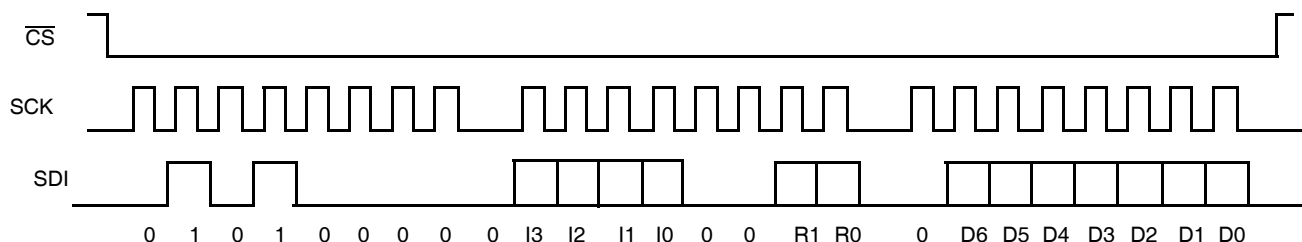

FIGURE 16. THREE BYTE WRITE SEQUENCE
A Write operation to the ISL22416 is a three-byte operation. It requires first, the $\overline{CS}$ transition from HIGH to LOW, then a valid Identification Byte, then a valid instruction byte followed by Data Byte is sent to SDI pin. The host terminates the write operation by pulling the $\overline{CS}$ pin from LOW to HIGH. For a write to address 0 (WR), the byte at address 2 (ACR<7>) determines if the Data Byte is to be written to volatile or both volatile and non-volatile registers. Refer to "Memory Description" and Figure 16.